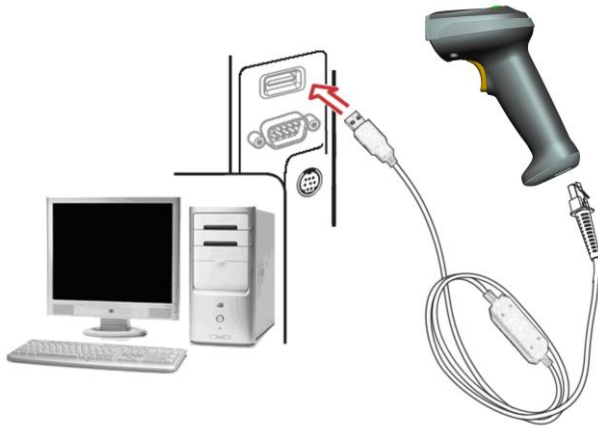

Figure 5
1. Refer to Figure 5, connect the USB interface cable to the bottom of the scanner.